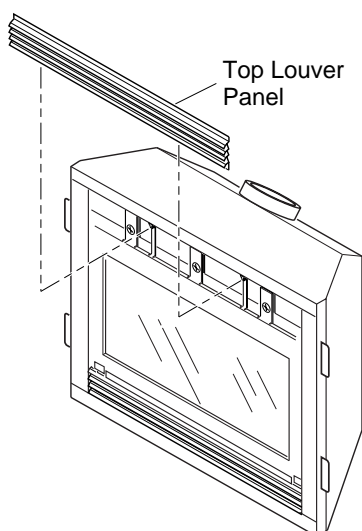

Figure 42 - Removing Top Louver Panel
1. Remove the upper louver panel by lifting upward and out (see Figure 42).